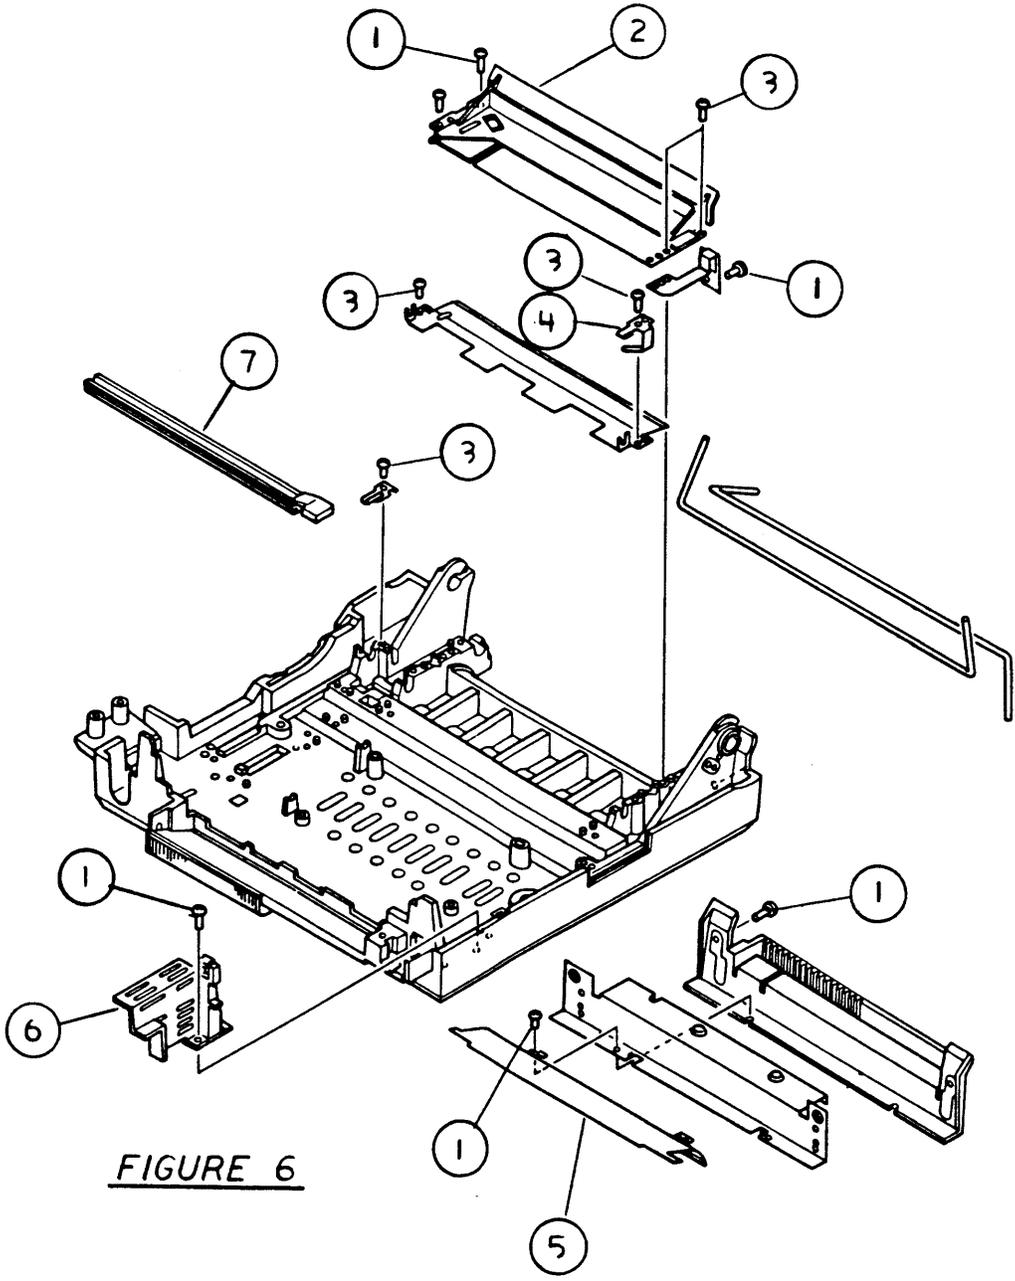

FIGURE 6
□ LASERWRITER – LOWER MAIN BODY (Figure 6)